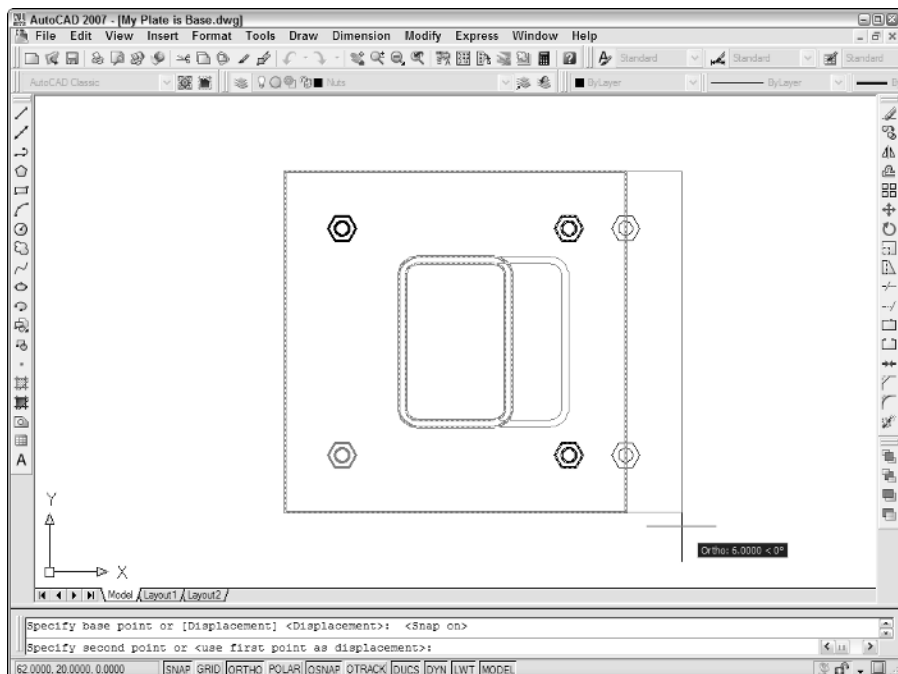

Figure 3-11:
8. Move the crosshairs to the right until the dynamic input tooltip shows a displacement of 6 units to the right and then click in the drawing space (see Figure 3-11).
AutoCAD *stretches* the column and plate by the distance that you indicate and *moves* the anchor bolts that were completely inside the crossing window rectangle, as shown in Figure 3-11.